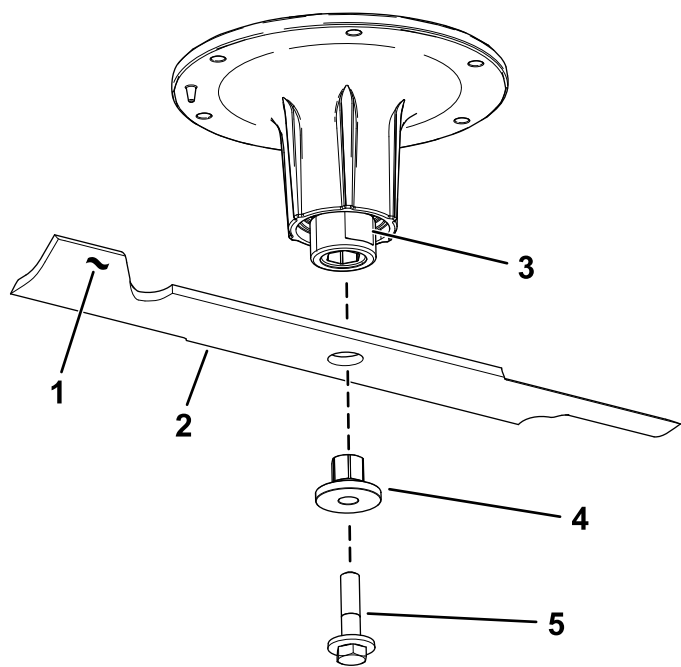

Figure 70
2. Remove the blade bolt, bushing, and blade from the spindle shaft (Figure 70).